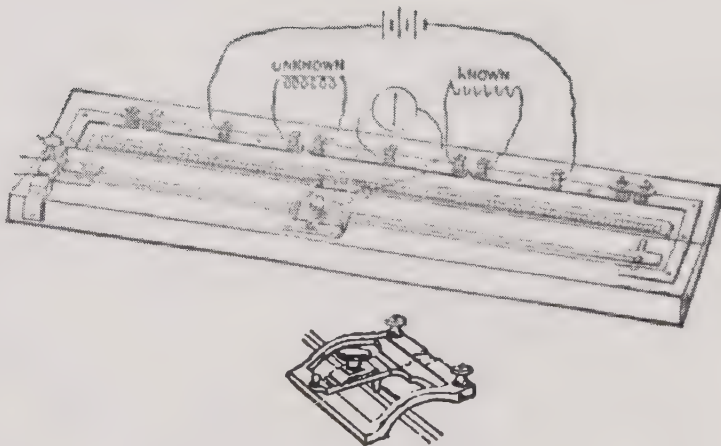

Fig. 156. Meter Bridge.
*The Meter Bridge* has been used for the most delicate researches. The cut, Figure 156, shows the connections. The characteristic part from which it takes its name is